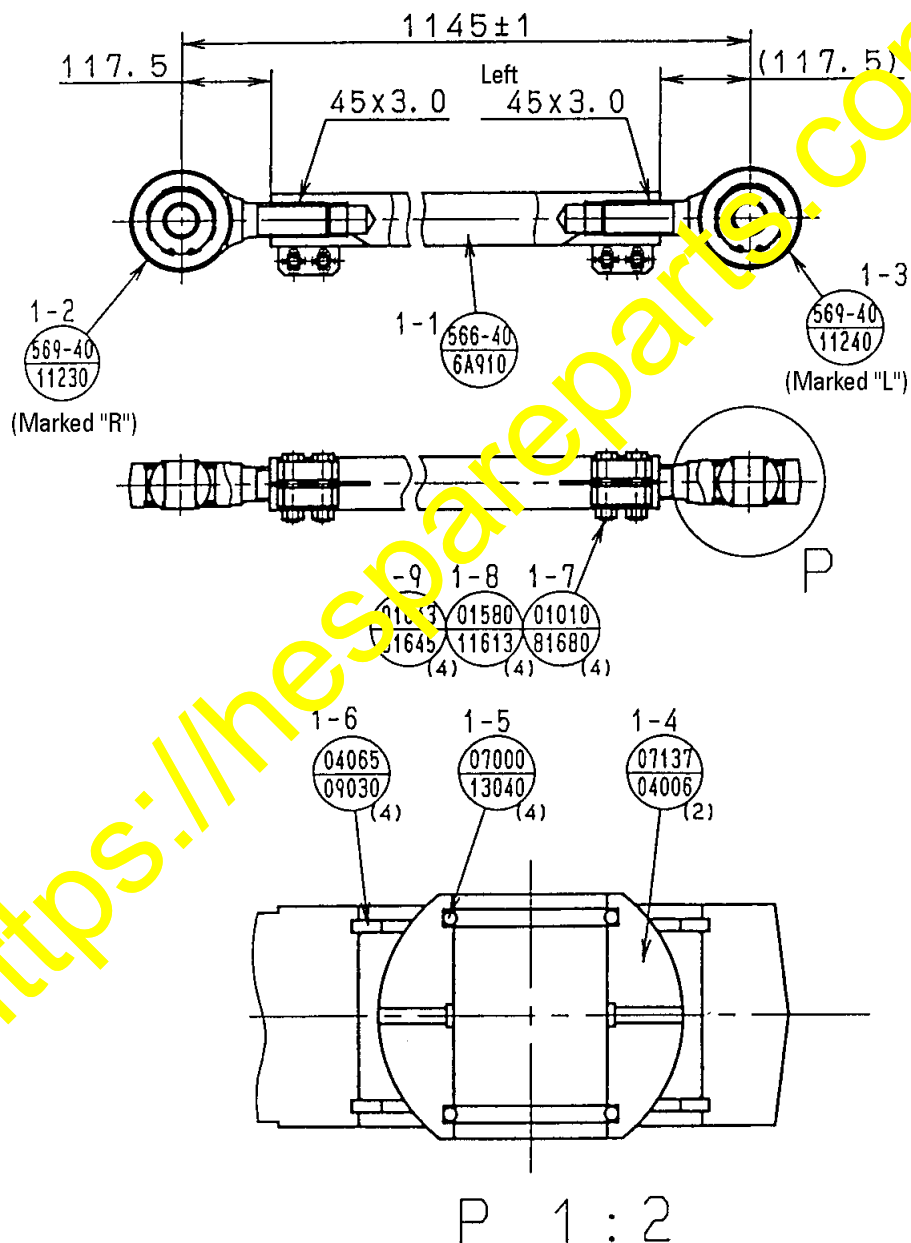

Fig. 2 Sub-assembly of the tie rod assembly
## 3-2. Sub-assembly of the parts (Refer to Fig. 2.)
- 1) Assemble the tie rod assembly 1 (566-40-6A900) according to Fig. 2.